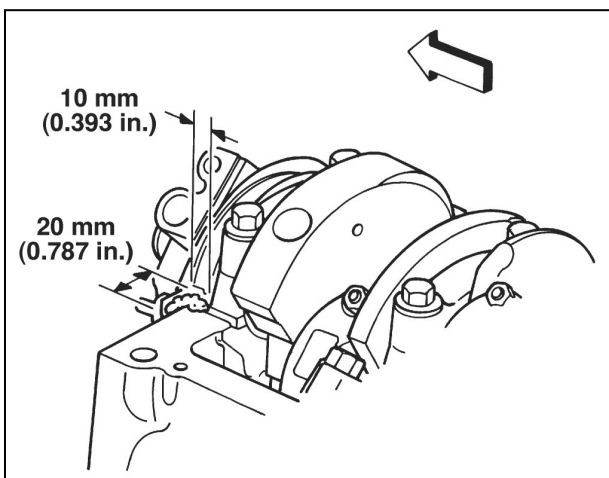

Figure 12-81 RTV Sealing Points - Front of Oil Pan
Figures 12-81 through 12-85
1. Apply RTV sealant (GM P/N 12346141) or equivalent to the front cover to block joint and to the crankshaft rear retainer seal to block joint. Apply the sealant about 25 mm (1.00 in.) in both directions from each of the four corners (figures 12-81 and 12-82).